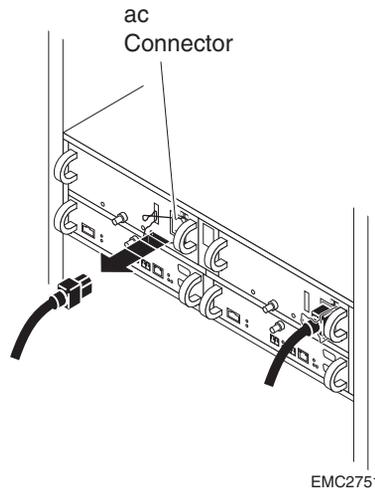
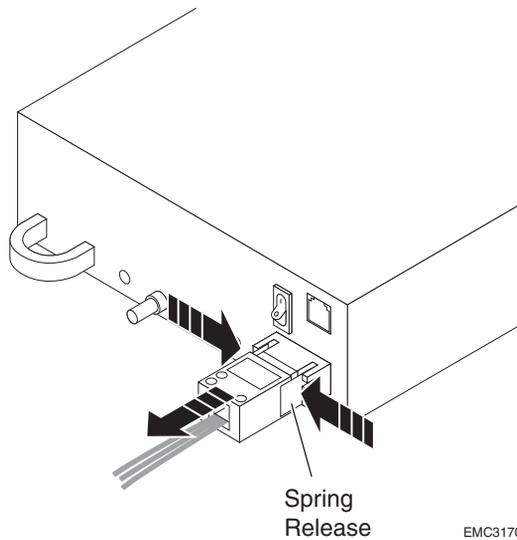

Figure 3-13 Unplugging the ac Power Cord
Figure 3-14 Unplugging the dc Power Cord
1. Turn any module power switch to off, then release any retention bail and unplug the ac/dc power cord. Figure 3-13 shows how to remove ac power cords. Figure 3-14 shows how to remove dc power cords.